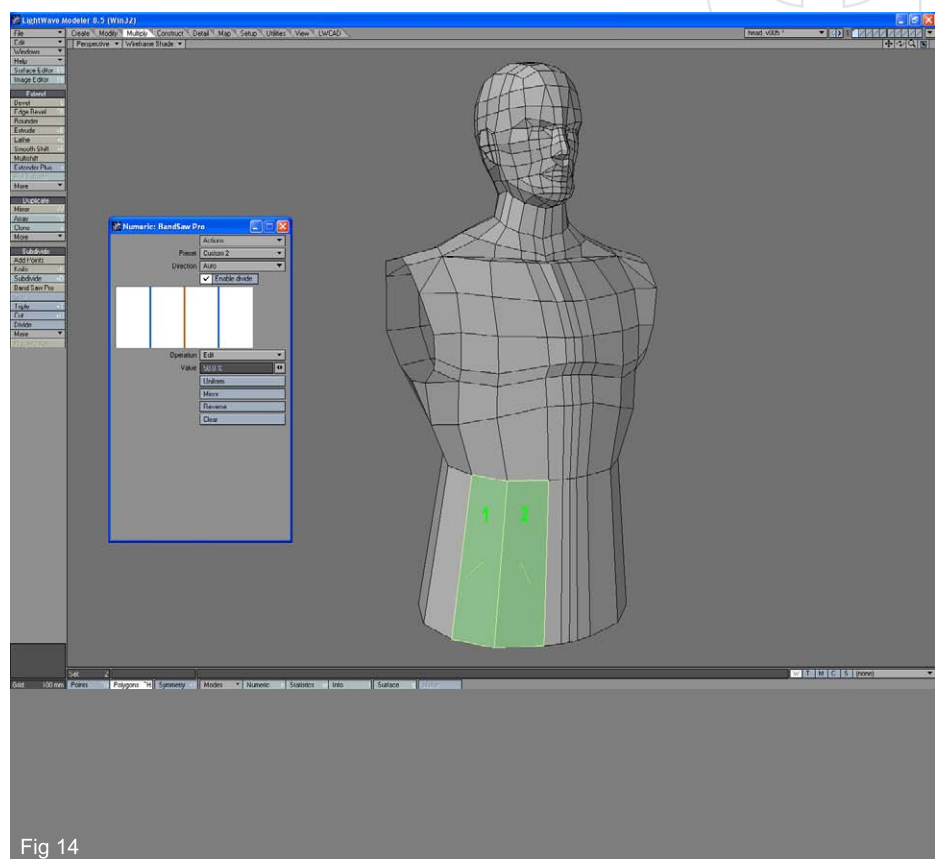

Fig 14
14. Select two polygons marked in the image and in the order shown in the image. Activate the BandSaw pro tool and make 3 cuts (on 25, 50 and 75%). Now we have 4 segments in this newly created portion (Fig14).